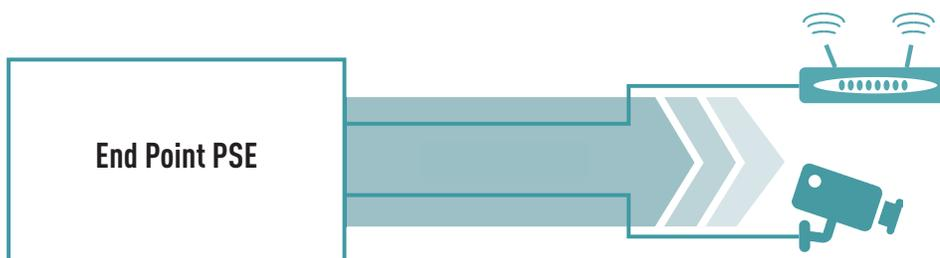

Figure 1
- Figure1: Endpoint PSE, typically supplied by the switch